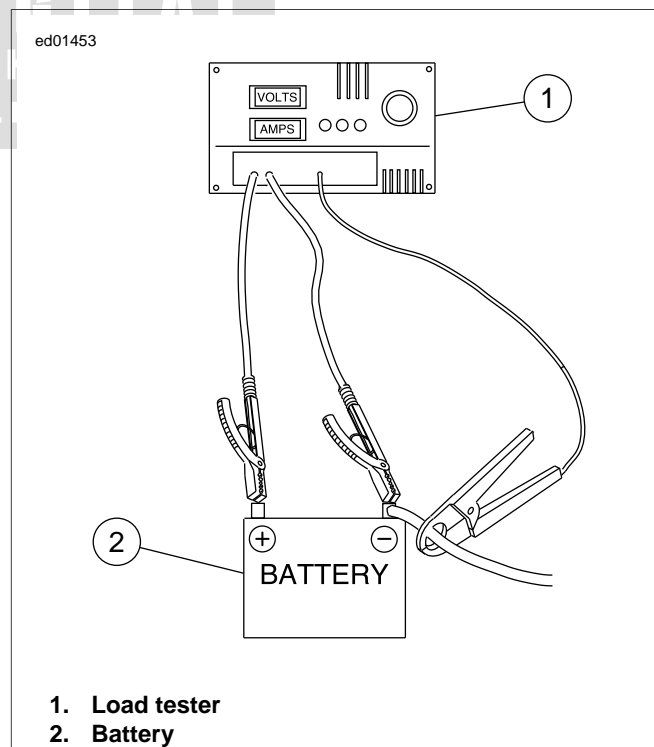

Figure 1-21. Check Current Draw (Ignition Switch On)
1. See Figure 1-21. To check for this condition, place load tester induction pickup or current probe pickup over battery negative cable.